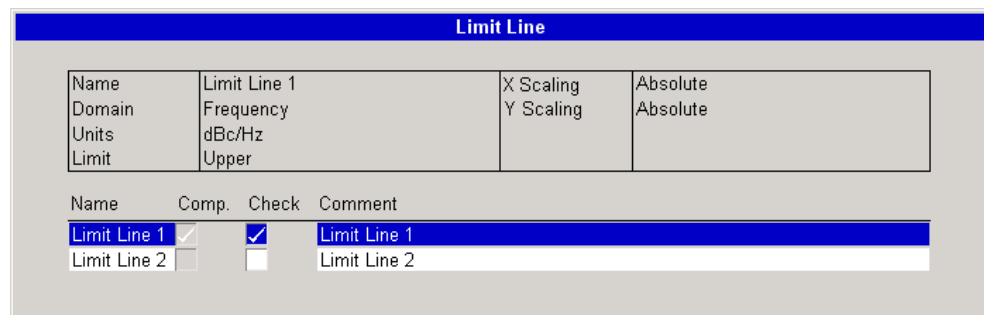

Fig. 4.32 Limit Line selection dialog box
- DELETE** The *DELETE* softkey deletes the limit line selected in the *Limit Line* selection dialog box (see Fig. 4.32).
1. In the *Limit Line* selection dialog box (see Fig. 4.32), focus the required limit line.